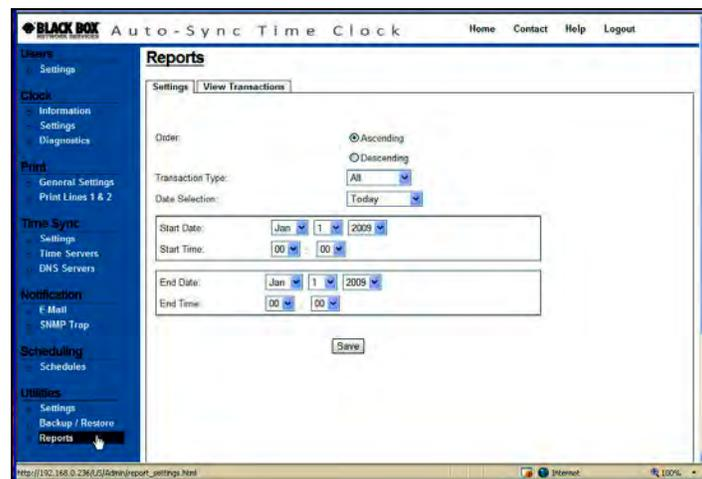

Figure 4-27. Reports Settings.
1. Click on the **Reports** link under Utilities, and the **Reports** screen will appear to show the **Settings** tab (see *Figure 4-27*).